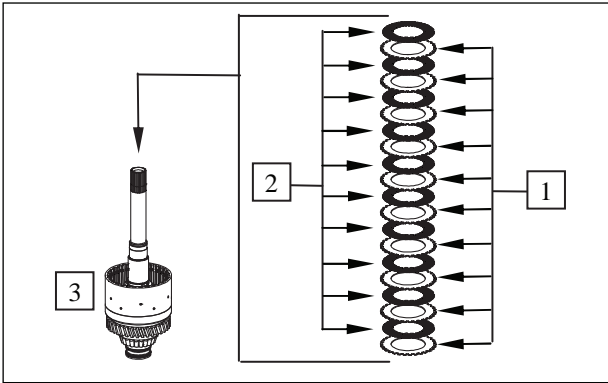

Figure 11
Install outer and inner disks alternately into the disk carrier (3) as shown in Figure 11.